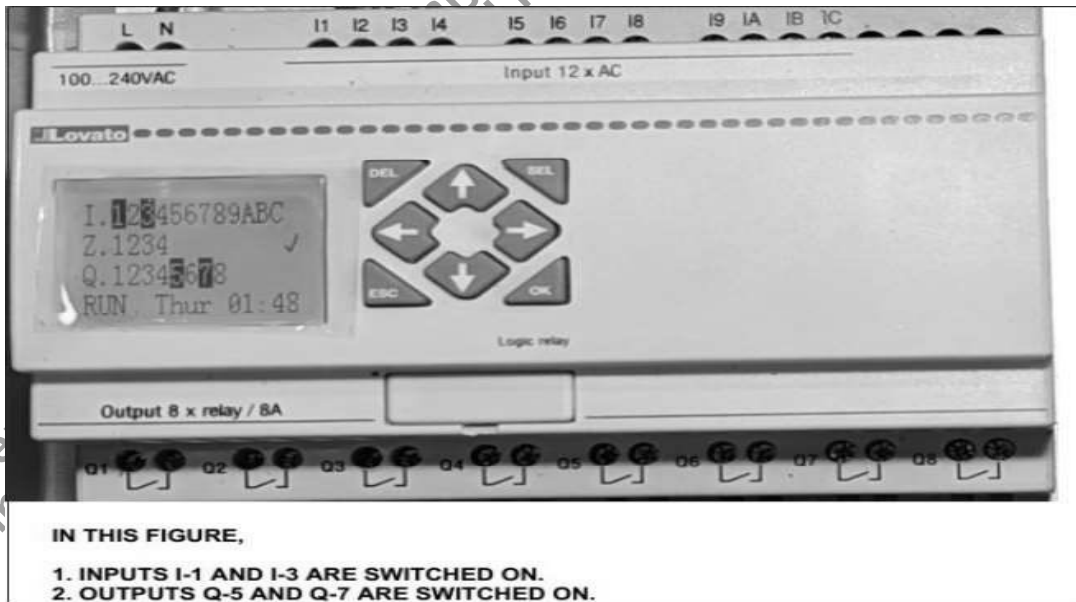

Figure 46B: Inputs/Outputs on PLC Screen
- d. Check if the input I4 is highlighted on the PLC screen (See "Figure 46B: I/O on PLC screen" on page 42).
- d. Confirm that the input I3 on PLC screen is not highlighted (See Figure 46B : I/O on PLC Screen" on page 42).